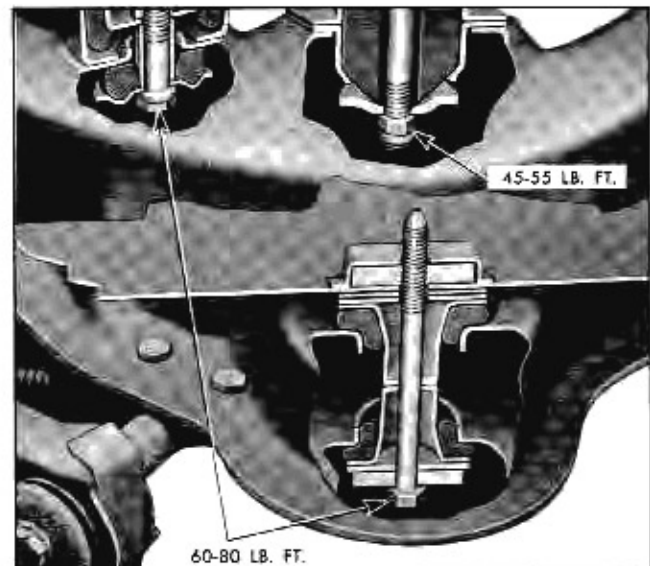

Fig. 3-40 Cross Member Bolt Torques
2. Install four bolts connecting crossmember to body. Torque bolts as shown in Fig. 3-40.